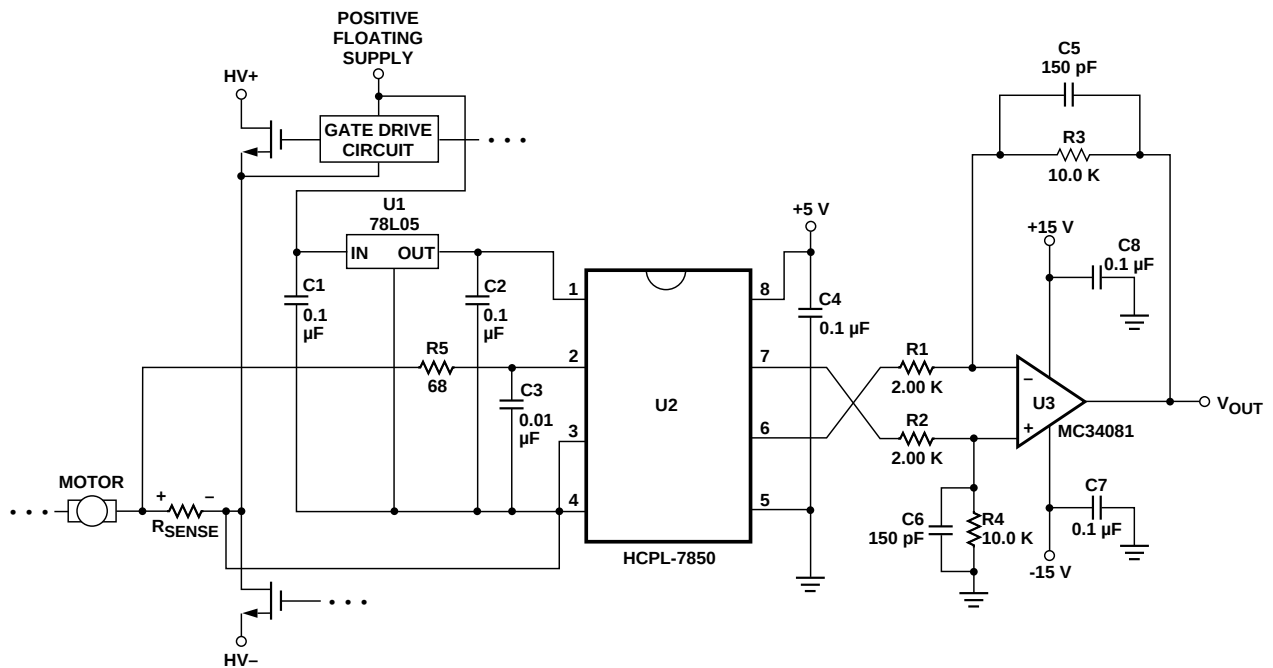

Figure 24. Recommended Application Circuit.
8. CMR (also known as IMR or Isolation Mode Rejection) specifies the minimum rate of rise of a common mode signal applied across the isolation boundary at which small output perturbations begin to occur. These output perturbations can occur with both the rising and falling edges of the common mode waveform and may be of either polarity. A CMR failure is defined as a perturbation exceeding 200 mV at the output of the recommended application circuit (Figure 24). See Applications section for more information on CMR.
The recommended application circuit is shown in Figure 24. A floating power supply (which in many applications could be the same supply that is used to drive the high-side power transistor) is regulated to 5 V using a simple three-terminal voltage regulator (U1). The voltage from the current sensing resistor, or shunt (R_{sense}), is applied to the input of the HCPL-7850 through an RC anti-aliasing filter ($R5$, $C3$). And finally, the differential output of the isolation amplifier is converted to a ground-referenced
As shown in Figure 24, a 0.1 μF bypass capacitor (C2, C4) should be located as close as possible to the input and output power supply pins of the HCPL-7850. The bypass capacitors are required because of the high-speed digital nature of the signals inside the isolation amplifier. A 0.01 μF bypass capacitor (C3) is also recommended at the input pin(s) due to the switched-capacitor nature of the input circuit. The input bypass capacitor should be at least 1000 pF to maintain gain accuracy of the isolation amplifier.
The recommended method for connecting the isolation amplifier to the shunt resistor is shown in Figure 24. Pin 2 (V_{IN+}) is connected to the positive terminal of the shunt resistor, while pin 3 (V_{IN-}) is shorted to pin 4 (GND1), with the power-supply return path functioning as the sense line to the negative terminal of the current shunt. This allows a single pair of wires or PC board traces to connect the isolation amplifier circuit to the shunt resistor. In some applications, however, supply currents flowing through the power-supply return path may cause offset or noise problems. In this case, better performance may be obtained by connecting pin 3 to the negative terminal of the shunt resistor separate from the power supply return path. When connected this way, both input pins should be bypassed. Whether two or three wires are used, it is recommended that twisted-pair wire or very close PC board traces be used to connect the current shunt to the isolation amplifier circuit to minimize electromagnetic interference to the sense signal.
The recommended application circuit (Figure 24) includes a post-amplifier circuit that serves three functions: to reference the output signal to the desired level (usually ground), to amplify the signal to appropriate levels, and to help filter output noise. The particular op-amp used in the post-amp is not critical; however, it should have low enough offset and high enough bandwidth and slew rate so that it does not adversely affect circuit performance. The offset of the op-amp should be low relative to
To maintain overall circuit bandwidth, the post-amplifier circuit should have a bandwidth at least twice the minimum bandwidth of the isolation amplifier, or about 200 kHz. To obtain a bandwidth of 200 kHz with a gain of 5, the op-amp should have a gain-bandwidth greater than 1 MHz. The post-amplifier circuit includes a pair of capacitors (C5 and C6) that form a single-pole low-pass filter. These capacitors allow the bandwidth of the post-amp to be adjusted independently of the gain and are useful for reducing the output noise from the isolation amplifier (doubling the capacitor values halves the circuit bandwidth). The component values shown in Figure 24 form a differential amplifier with a gain of 5 and a cutoff frequency of approximately 100 kHz, and were chosen as a compromise between low noise and fast response times. The overall recommended application circuit has a bandwidth of 66 kHz, a rise time of 5.2 μs and a delay to 90% of 8.5 μs .